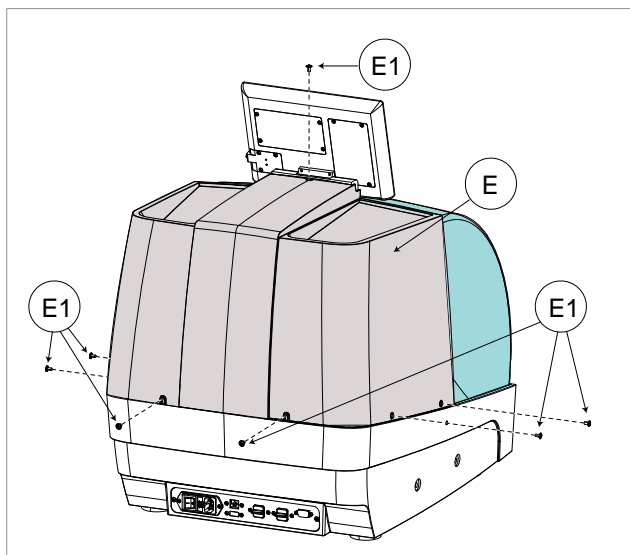

Fig. 69
- 2) Remove the seven screws (E1) securing the cover (E). (Fig. 69).